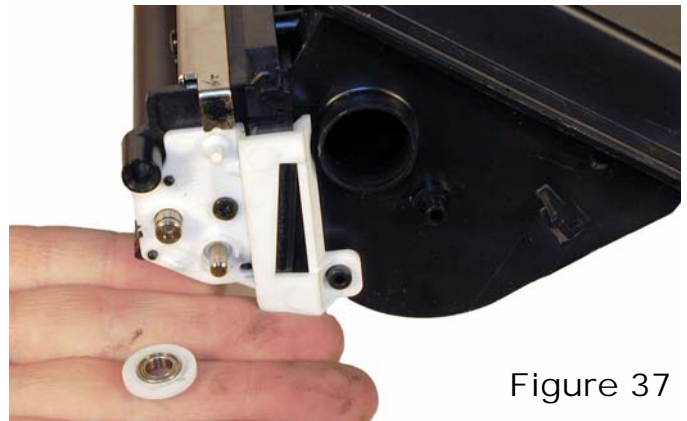

Figure 37
33) Remove the bearing. Note: this bearing can be hard to remove! Carefully pry it off. See **Figure 37**